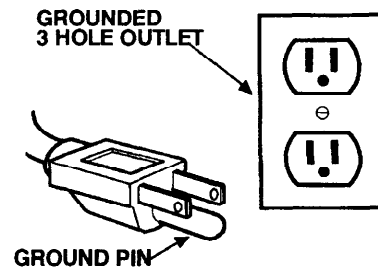

FIG. 32.
7. Plug charger power cord into grounded wall outlet **before** connecting charger to batteries. (Figure 32)